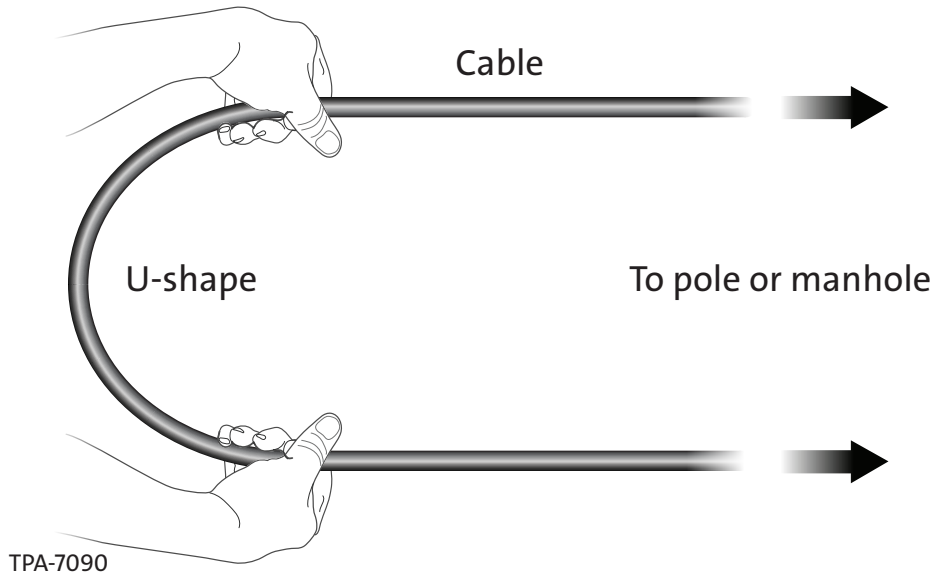

Figure 2
Step 1: Pull the cable slack out into a U-shape (Figure 2).